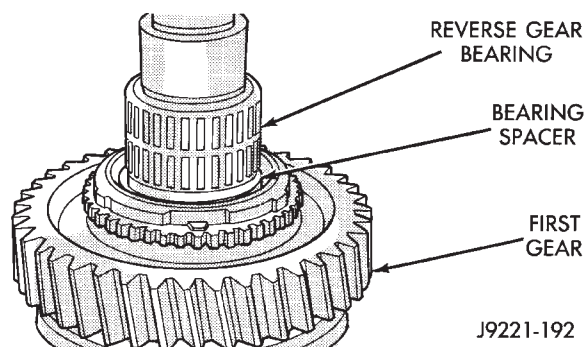

Fig. 115 Reverse Gear Bearing And Spacer Installation
(31) Install reverse gear bearing spacer on mainshaft (Fig. 115). Bearing spacer seats against reverse clutch gear snap ring.
(32) Install reverse gear bearing on mainshaft (Fig. 115).